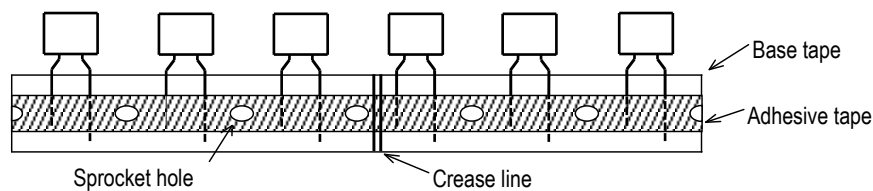

Figure-3
- (4) Each crease line be located on the rights side of the sprocket hole as shown in figure-3. The crease line shall be made every 25 capacitors.